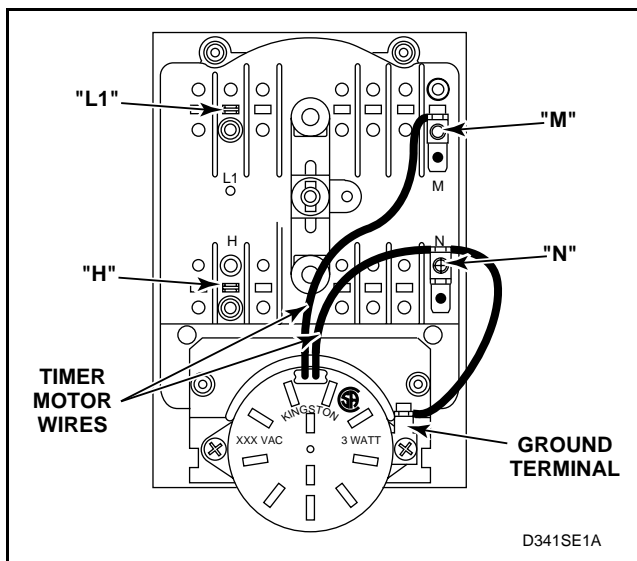

Figure 68
73. TIMER CONTACTS (Nonmetered Models) (*Figure 68*)